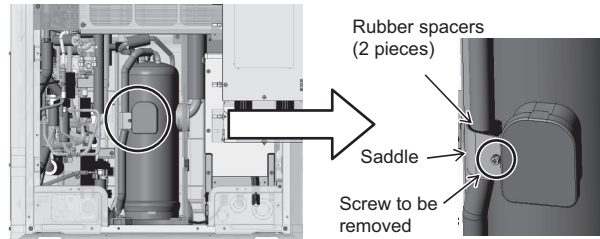

Figure 5
(4) Remove the braze from the pipe on the left side of four-way valve (21S4a) and between four-way valves (21S4b and 21S4c). (See Figure 5.)
- (5) Remove the saddle and the rubber spacers on the compressor by unscrewing the screw. (See Figure 5.)